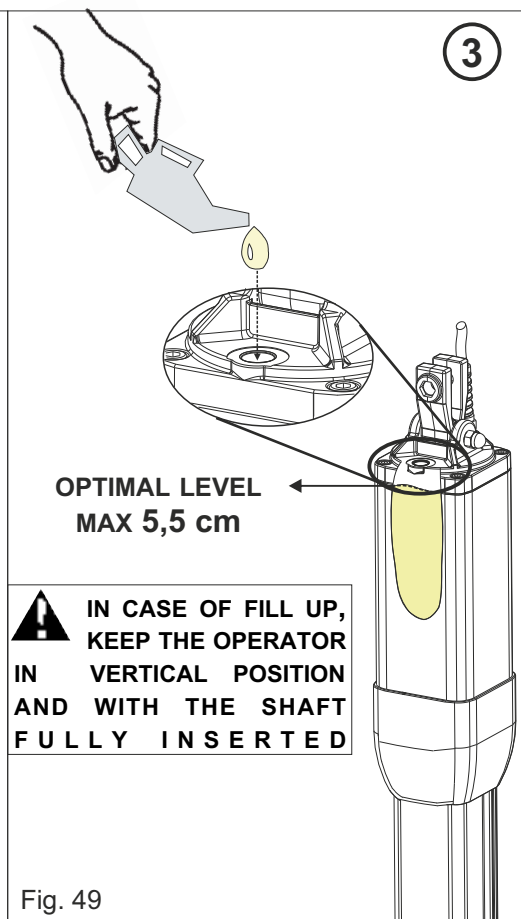
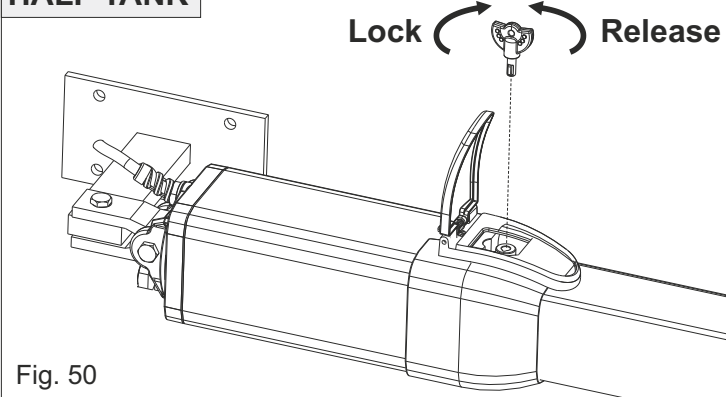
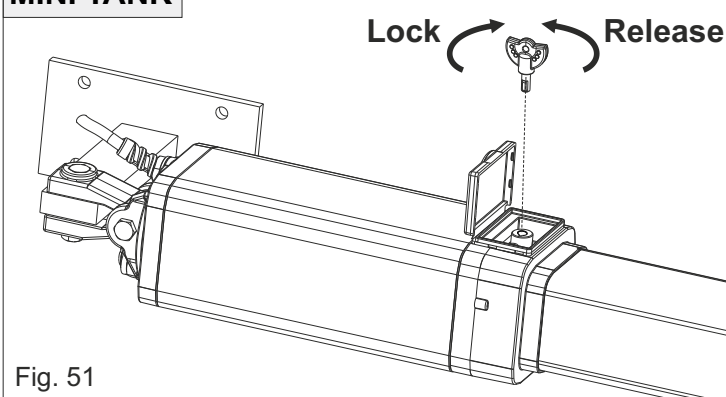

Fig. 49
Fig. 50
Fig. 51
- 1) Unlock the operator (see unlocking procedure in Fig. 49 and Fig. 50)
- Insert the special release key and turn it anti-clockwise by 180° (Fig. 50 and Fig. 51)
- Insert the special release key and turn it clockwise until it closes (Fig. 50 and Fig. 51)